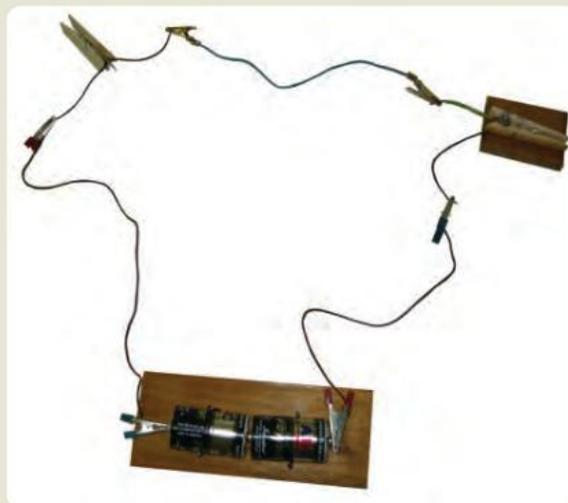

Figure 8.24 Simple circuit
- 2 Make the circuit shown in Figure 8.24. Use the simple components you made earlier.